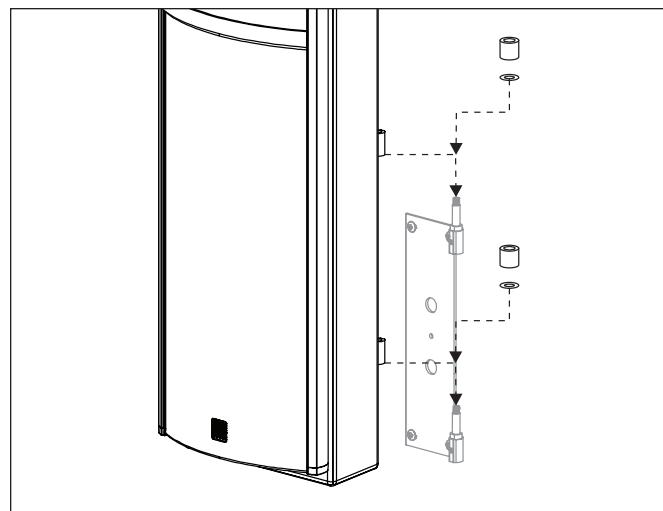

Figure 7. Steps 8-10
- 9 Place the EFX onto the wall bracket aligning the cylindrical parts of the cabinet bracket hinges with the upward pointing pins on the wall bracket. Carefully lower the EFX into place (see figure 7).
- 10 Using a 6mm Allen tool, attach a cap nut and washer on top of each pin, but do not fully tighten the cap nuts (see figure 7).